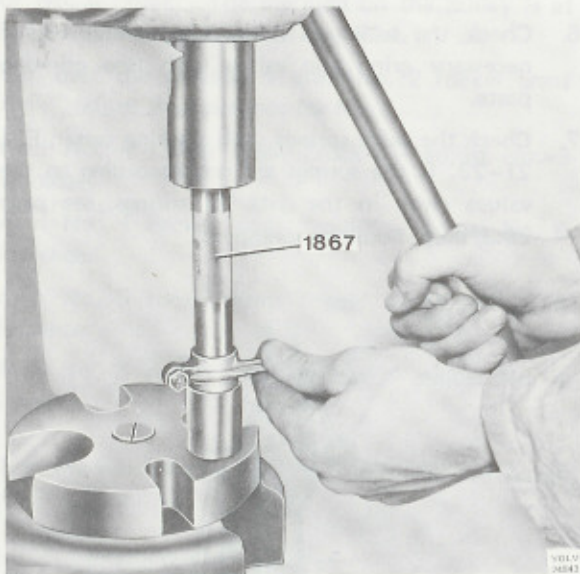

Fig. 21-24. Replacing a rocker arm bushing
5. If the bushings are to be replaced, use drift 1867 for pressing them out and in, Fig. 21-24. Then ream the bushing with a suitable reamer to an accurate fit on the shaft. The hole in the bushing should be opposite the hole in the rocker arm.